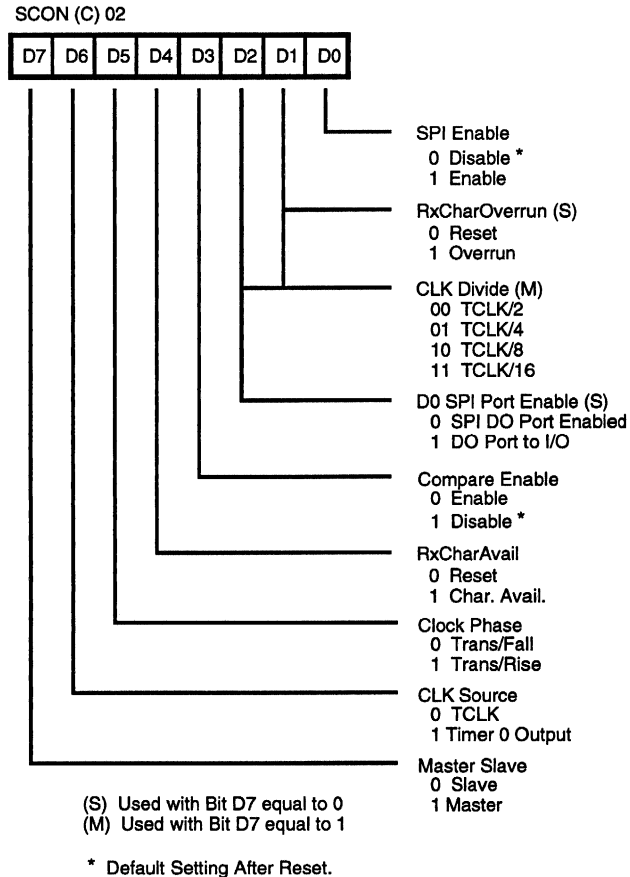

Figure 2. SPI Control Register (SCON)
Control of the SPI bus in the Z8 is done in the SCON register (location (C) 02 in the expanded register file). There are also two other SPI bus registers in the Z8 which are necessary; the TX/RCV buffer and the SPI compare register. A diagram of the bit manipulation of the SPI Control Register is given in Figure 2. The Master/Slave mode is controlled by bit D7 in the SCON register. In the master mode, the definition of the bits is defined as follows: